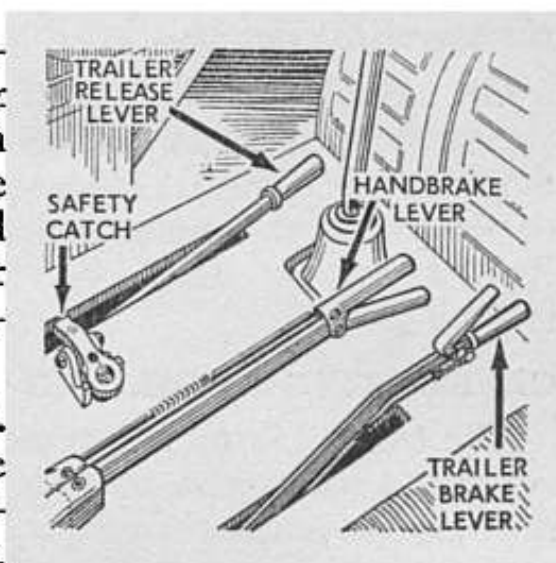

Fig 2. Additional hand controls fitted to Bedford-Scammell.
**On Bedford-Scammell** the following *additional* hand controls are fitted (see Fig. 2) :
**Trailer Release Lever.** Situated to the left of the tractor handbrake lever. Used when decoupling the trailer from the tractor. A safety catch is fitted (see Fig. 2) to prevent the trailer from being accidentally uncoupled.